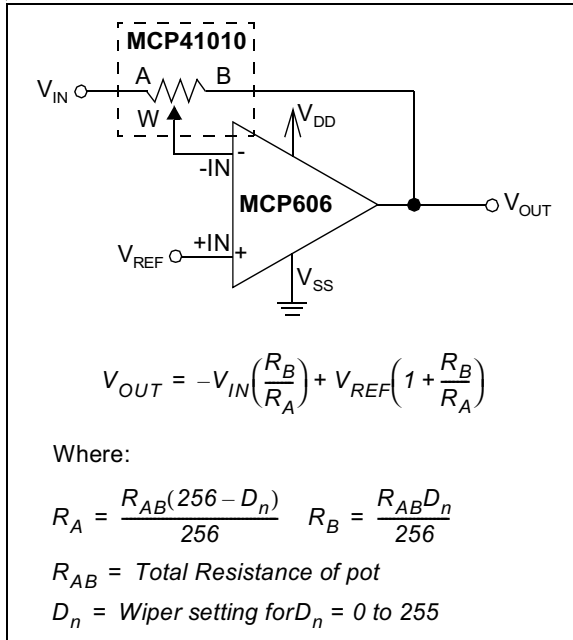
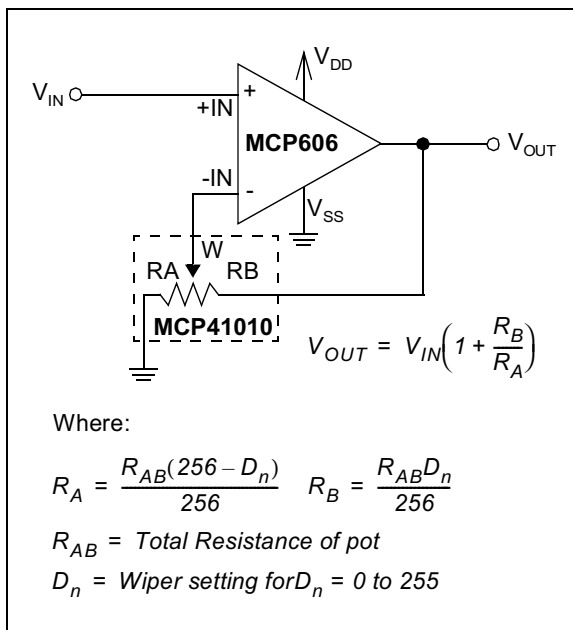

Figure 4-4: Single supply programmable inverting gain amplifier using a digital potentiometer.
Figure 4-5: Single Supply Programmable Non-inverting gain amplifier
Potentiometers are often used to adjust system reference levels or gain. Programmable gain circuits using digital potentiometers can be realized in a number of different ways. An example of a single supply inverting gain amplifier is shown in Figure 4-4. Due to the high input impedance of the amplifier, the wiper resistance is not included in the transfer function. For a single supply non-inverting gain configuration, the circuit in Figure 4-5 can be used.
In order for these circuits to work properly, care must be taken in a few areas. For linear operation, the analog input and output signals must be in the range of V_{SS} to V_{DD} for the potentiometer and input and output rails of the op-amp. The circuit in Figure 4-4 requires a virtual ground or reference input to the non-inverting input of the amplifier. Refer to Application Note AN-682, "Using Single Supply Operational Amplifiers in Embedded Systems" for more detail. At power up or reset (RS), the resistance is set to mid-scale and R_A and R_B match.
Figure 4-9: Potentiometer resistances are a function of code. It should be noted that when using these equations for most feedback amplifier circuits (see Figure 4-4 and Figure 4-5), the wiper resistance can be omitted due to the high impedance input of the amplifier.